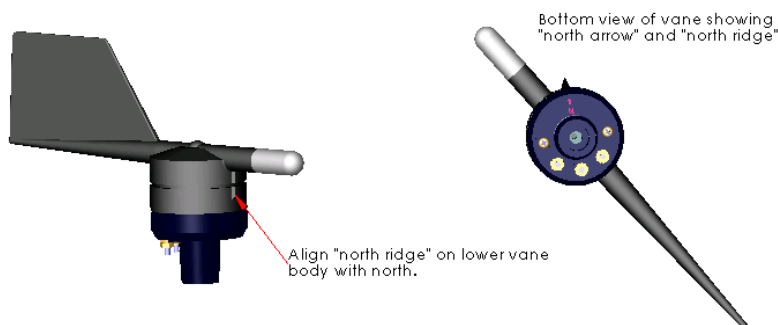

Figure 4
8. Attach the wind vane with the north arrow index mark on the base pointing in the same direction as the north mark on the compass. The #200P wind direction vane is designed to mount with a cotter pin and set screw to a NRG sensor mounting boom. Insert the cotter pin from the side that the positive (+) terminal is on, through the sensor so the ends exit the same side as the negative (-) terminal. Separate the ends of the cotter pin so it will not fall out. The cotter pin installs horizontally through drilled holes in the boom and vane, allowing the base of the vane to point in one of two directions, toward the tower or away from the tower. See Figure 4.